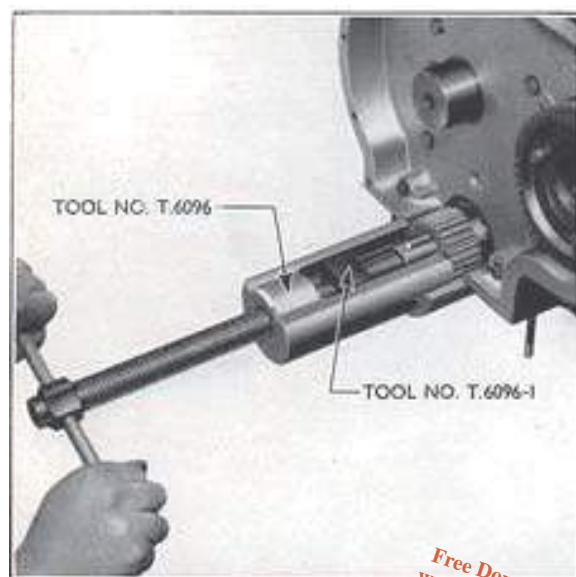

Fig. 14
9. Remove the crankshaft gear using the puller (Tool No. T.6096), with the thrust button (T.6096-1) screwed into the front end of the crankshaft (see Fig. 14).